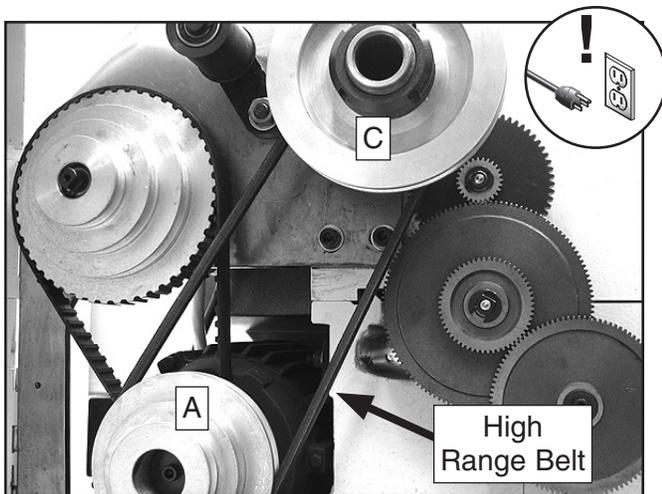
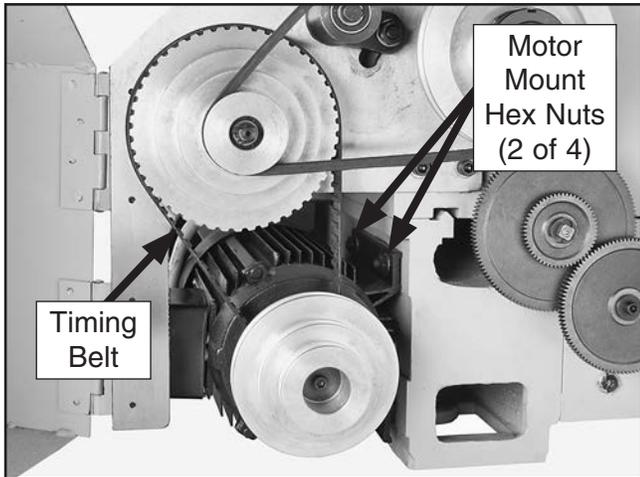

Figure 99. Model G0602 high-range belt.
Figure 102. Timing belt and motor mount hex nuts.
—If the *high range belt* (**Figure 99**) needs to be replaced, loosen the motor mount hex nuts, (see **Figure 102** on **Page 65**), raise the motor, and carefully roll the belt off of pulleys **A** and **C**. Install a new V-belt, then follow the steps in "To tension the Model G0602/0602Z high range V-belt" above.
On the Model G0602/G0602Z the timing belt transfers power from the motor to the secondary drive pulley (see **Figure 102**). If the timing belt becomes excessively worn or damaged, you will need to replace it.
3. Loosen the motor mount hex nuts (see **Figure 102**).
3. Loosen the four motor mount hex nuts (see **Figure 102**) then remove the low or high range V-belt (refer to **Replacing V-Belt** on **Page 64**).